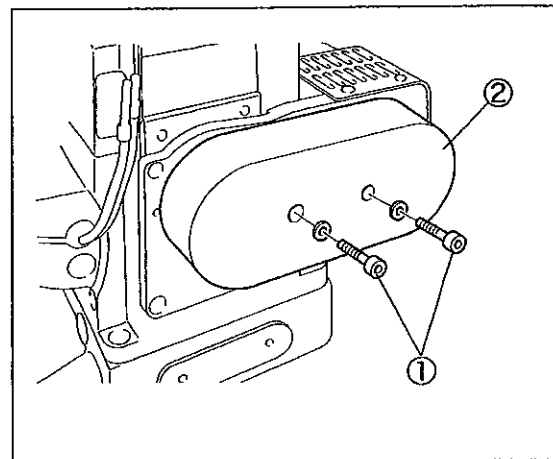

Fig. 51
1. Loosen the screws ① to remove the belt cover ②. (Fig. 51)
4. Reinstall the belt cover ①. (Fig. 51)